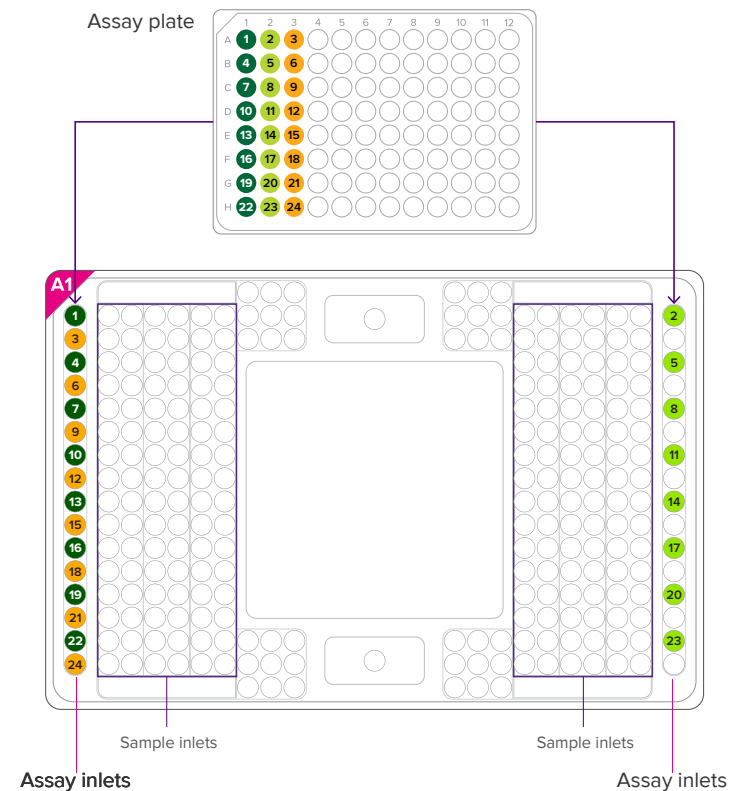

Figure 5. Assay loading map
- Before pipetting reagents, maintain traceability by noting the orientation of the A1 corner, assay inlets, and sample inlets, as shown in Figure 5.
- a Carefully pipet 3.5 µL of each 10X assay mix from the assay plate into the designated assay inlets on the IFC, as shown in Figure 5.